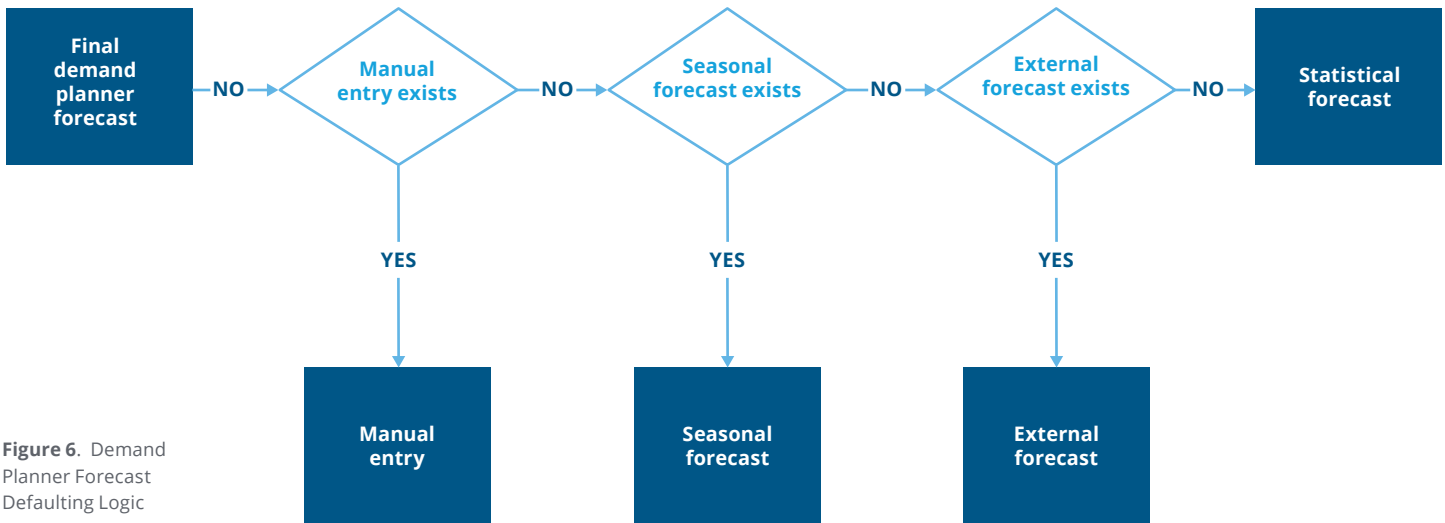

Figure 6. Demand Planner Forecast Defaulting Logic
- Demand planner forecast with the following defaulting mechanism (refer to the figure 6):